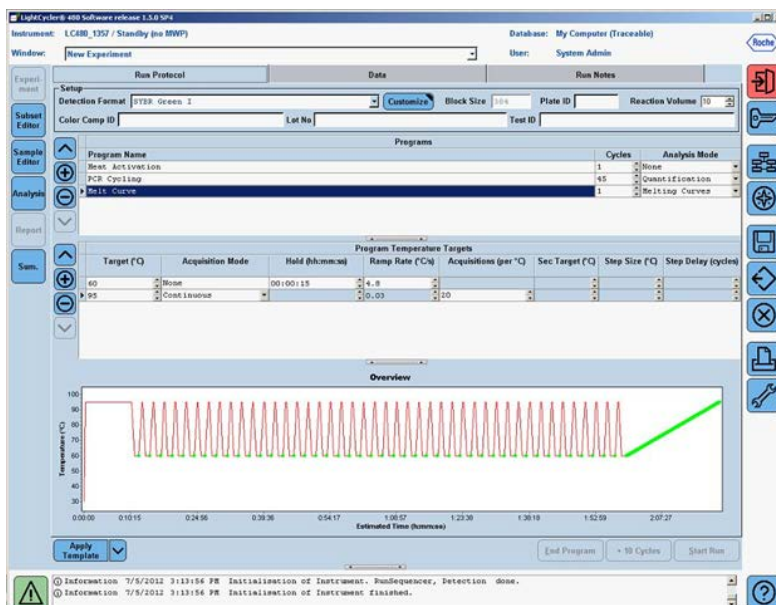

Figure 5. Setup of the third program — melt curve.
- Click to change the Program Name of the 3rd program to “Melt Curve”. Leave Cycles at “1” and change Analysis Mode to “Melting Curves”. In the Temperature Targets section, click the  button once to add one more temperature target line. Enter the values for the following parameters (Figure 5):